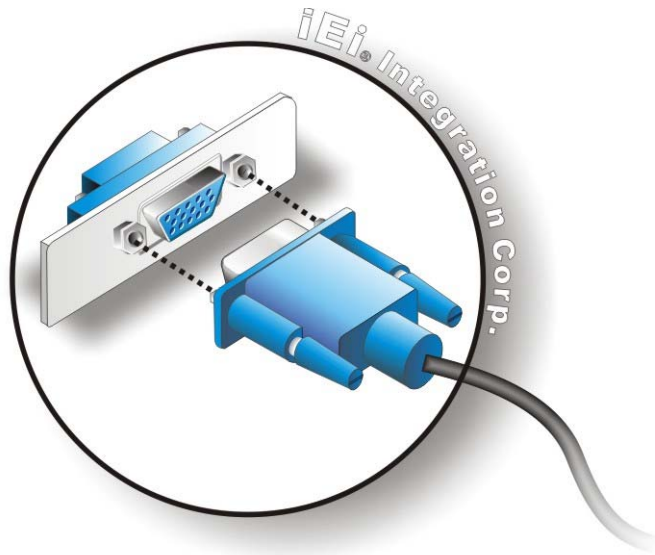

Figure 4-20: VGA Connector
Step 3: Insert the VGA connector Once the connectors are properly aligned with the insert the male connector from the VGA screen into the female connector on the IMBA-Q670. See **Figure 4-20**.